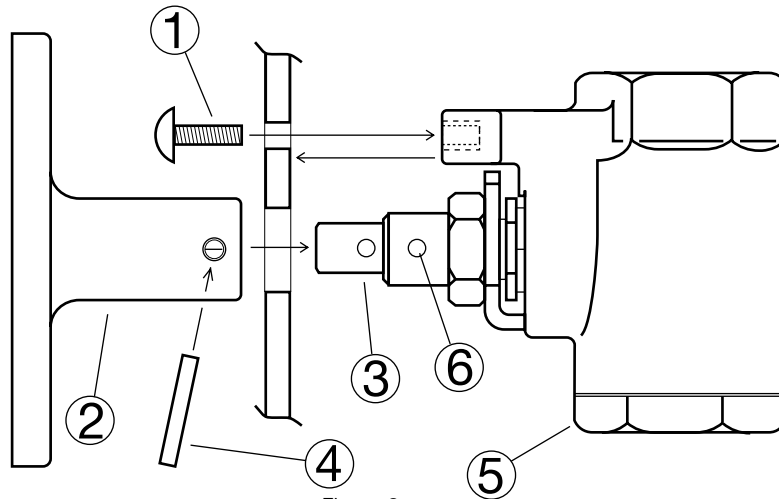

Figure 3
3. Place the valve behind the panel with the trunnion extending through the trunnion hole. Attach the valve to the panel using the two 1/4–20 screws provided (Item 1, Figure 3).
4. Slide the T-handle (Item 2, Figure 3) over the valve trunnion (Item 3, Figure 3) so that the hole in the T-handle lines up with the hole in the trunnion. Insert the roll pin (Item 4, Figure 3) in the holes and drive flush with the handle side.